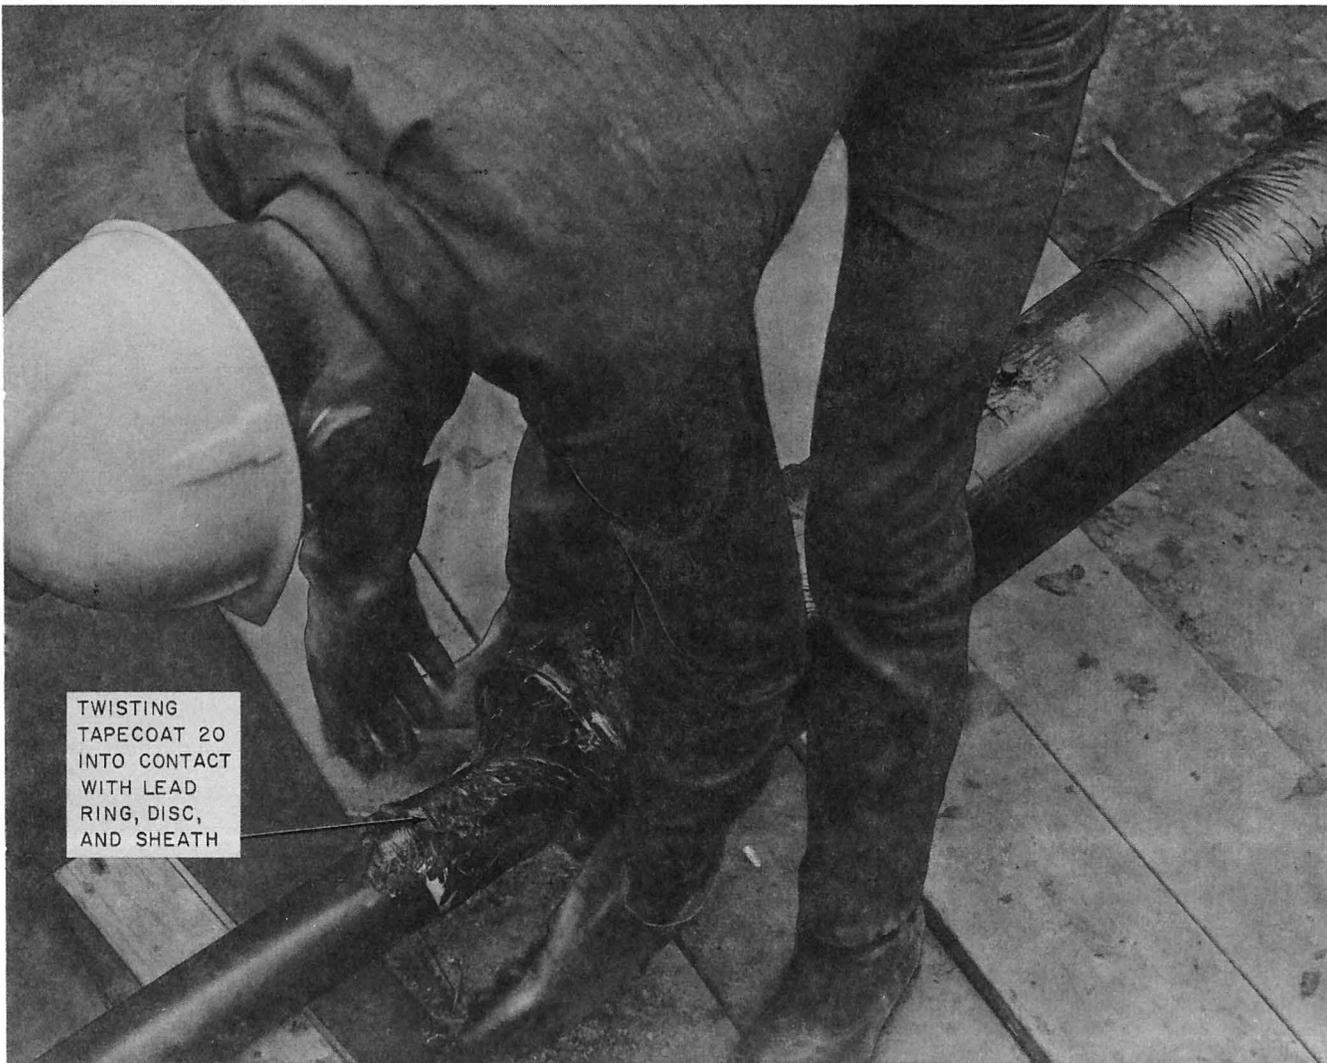

Fig. 19—Working Wrap Down Over Lead Ring, Lead Disc, Lead Cable Sheath, and Glass Tape
- (d) Starting at the lead ring work the wrap down over the lead ring, lead disc, lead cable sheath, and glass tape. Do not extend the wrap onto the polyethylene jacket. Use a twisting motion to bring Tapecoat into close contact with both disc and sheath. (Fig. 19)